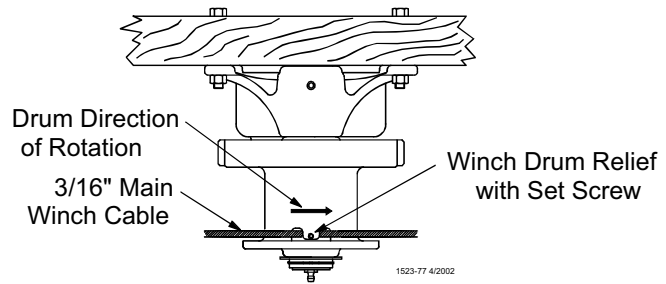

Figure 10. Attaching the cable to the Power Winch
4. Route the cable through the Winch Drum Relief located near the bottom of the drum. Tighten the set screw to anchor the cable to the drum. See Figure 10.